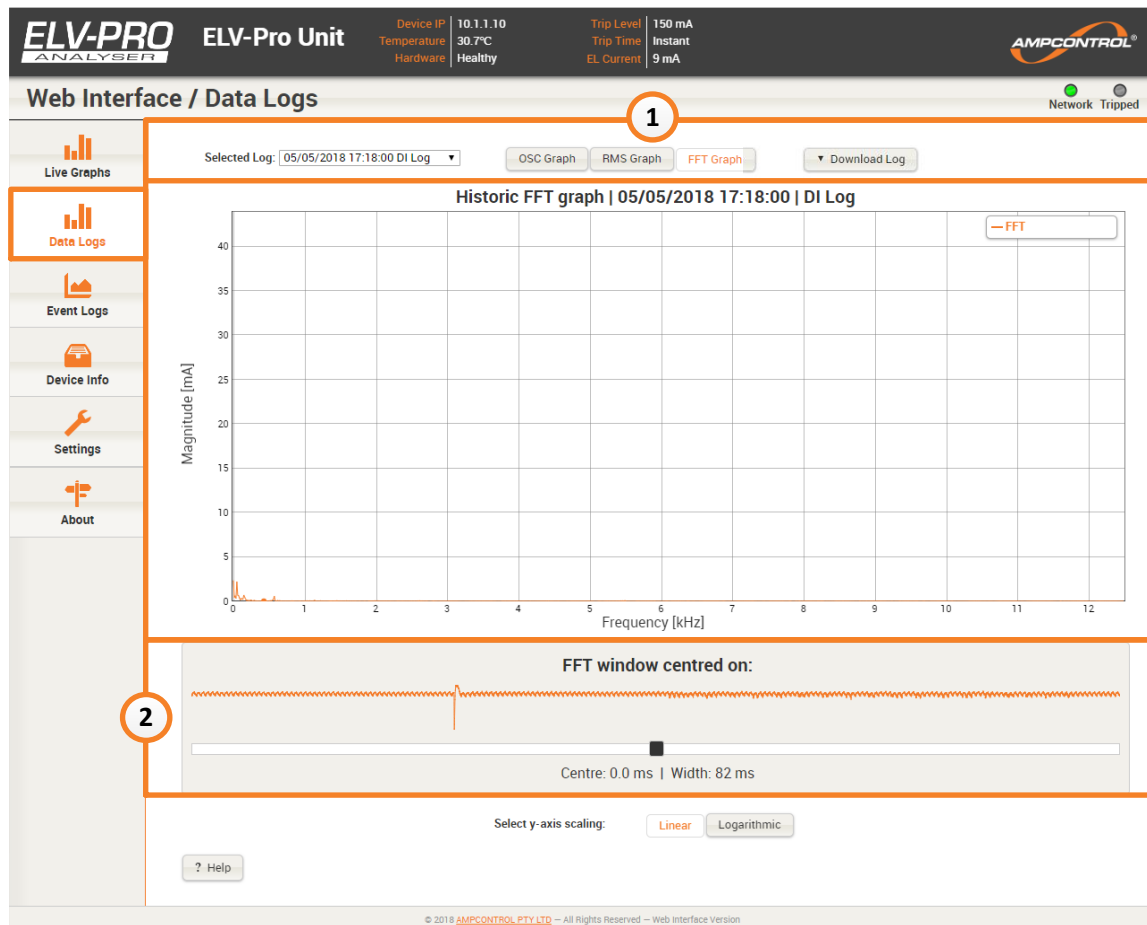

Figure 6.9: ELV-PRO Web Interface - Data Logs (FFT)
The FFT graph (Figure 6.9) corresponds to the selected 80ms of signal. A small oscilloscope plot of the signal (item 2 of Figure 6.9) is provided to indicate where in the recording the data is being analysed. Use the slider below the plot to select another window within the recording.